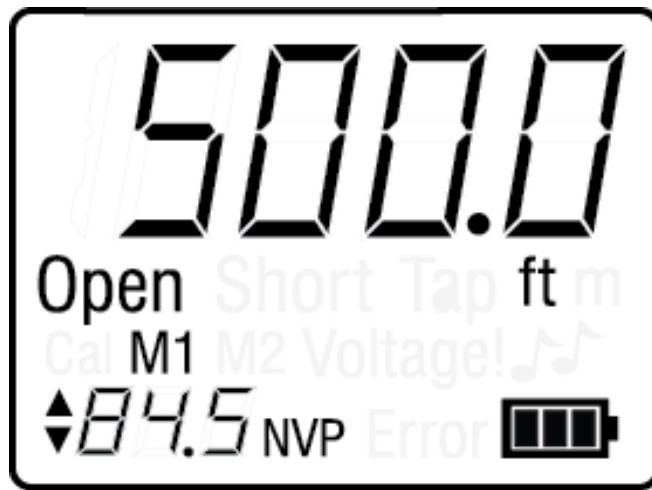

Figure 6. Calculated NVP Value
6. Press the TEST mode button. The following updates occur in the LCD display screen (see Figure 6):